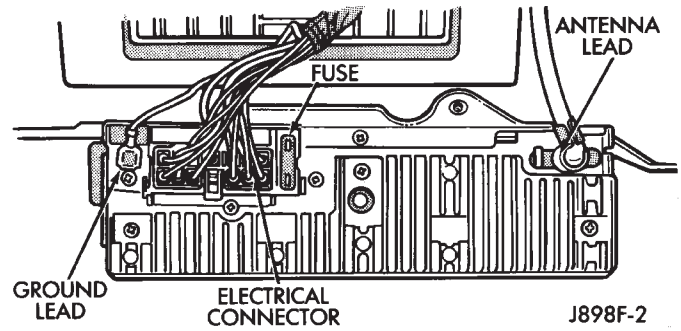

Fig. 3 Disconnect/Connect Radio Wiring Harnesses
- (4) Disconnect radio electrical connector, ground lead and antenna lead (Fig. 3).